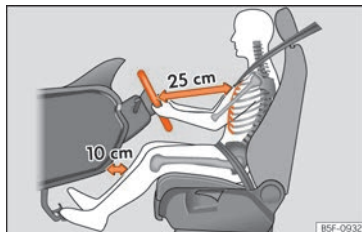

Fig.7 The correct distance between the driver and the steering wheel must be at least 25 cm (10 inches).
- Move the steering wheel so it is at least 25 cm (10 inches) away from the sternum »» Fig. 7 and you can hold it with both hands on both sides, on the outer part, with your arms slightly bent.
- Move the seat in such a way that you can step on the pedals with your knees slightly bent and with a distance between the knees and the dashboard of at least 10 cm (4 inches) »» Fig. 7.